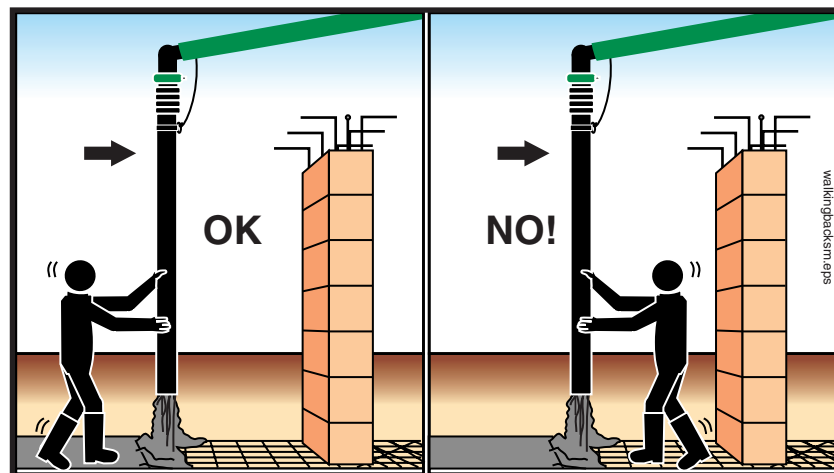

Figure 85
- 17.13 **⚠ WARNING** The hose man should not walk backwards (Figure 85). Walking forward will allow him to see obstacles and avoid tripping.
- 17.14 **⚠ WARNING** The hose man should never position himself between the boom or boom hose and any fixed object like a wall or column (Figure 85).